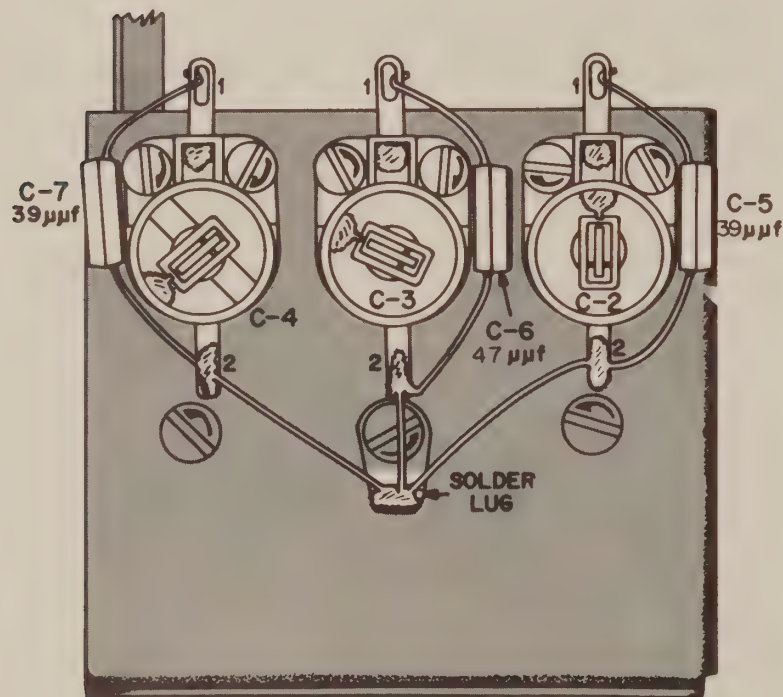
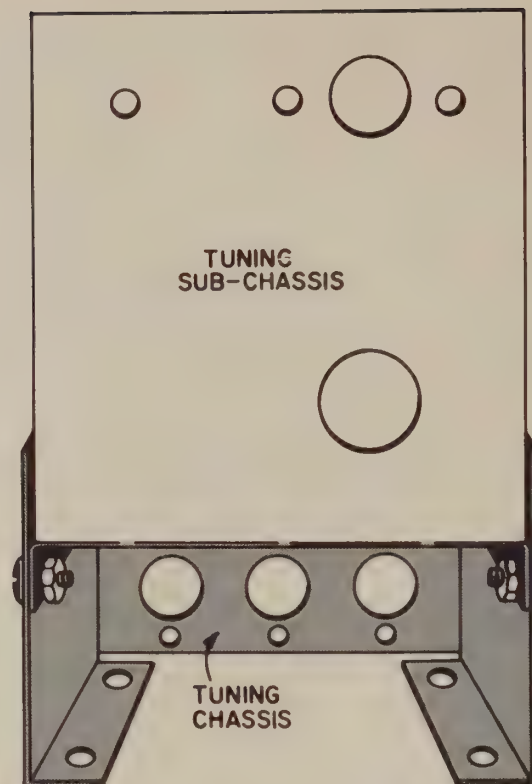

FIGURE 17. FIRST WIRING ON THE TUNING CHASSIS
FIGURE 18. TUNING CHASSIS ASSEMBLY
SEE FIGURE 17.
- ☐ Tuning chassis, tuning sub-chassis and a #6 solder lug. Assemble with six 6-32 screws, lockwashers and nuts as shown in Figure 18. See Figure 17 for location of the solder lug.